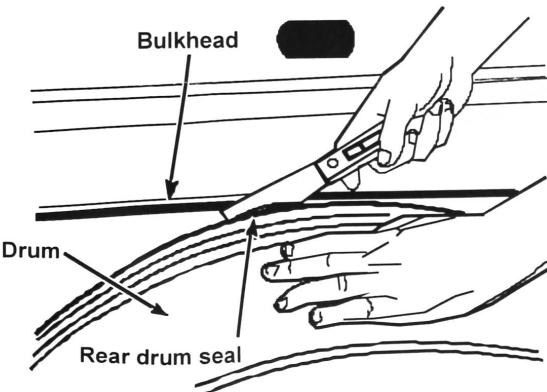

Figure 2
9. Turn the drum by hand one full turn, (counterclockwise) making sure the rear seal is riding on top of the ridge on the bulkhead and not turned under. See *Figure 2*.